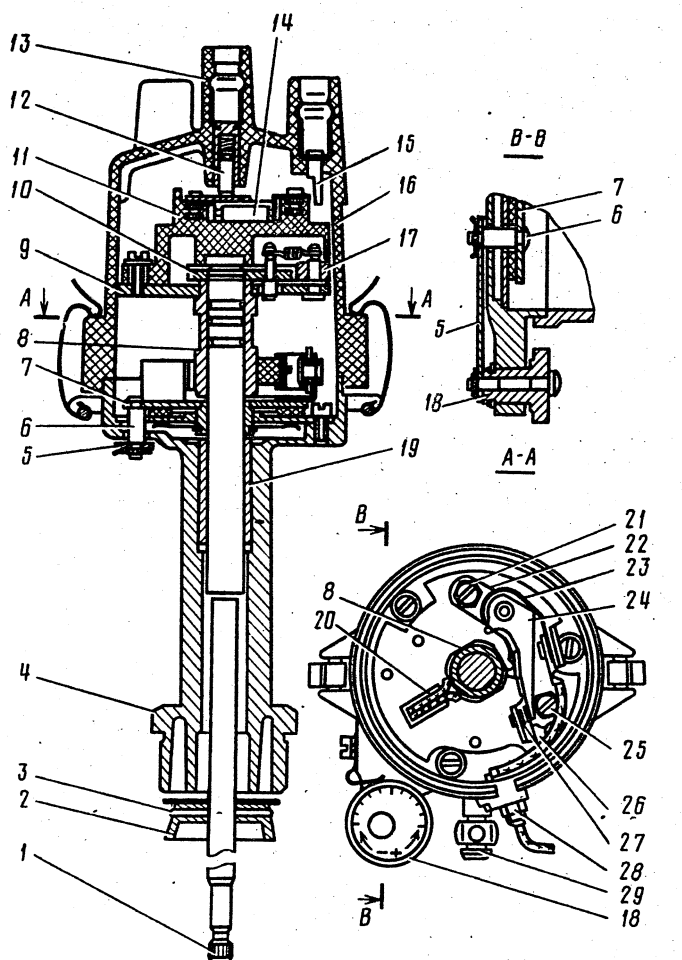

Fig.7-20. Ignition Distributor P-125B:
- measure the gap with a feeler gauge. If the gap is not within 0.35 and 0.45 mm limits, loosen screws 21 and 25 (Fig.7-20), insert the blade of a screwdriver into slot 26 and turn the breaker bracket as required. After adjustments tighten screws 21 and 25 all the way home.